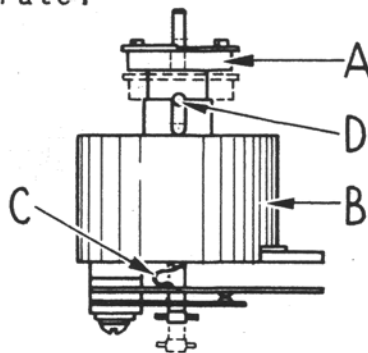
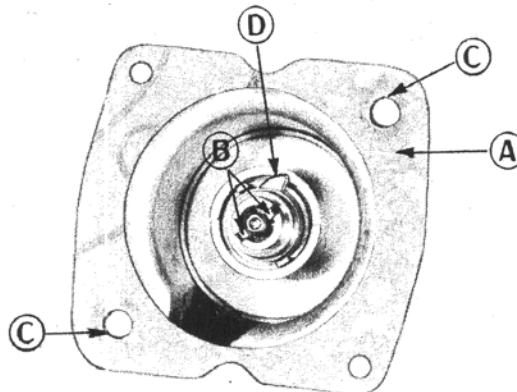

Figure 2 Coil, Shaft and Contacts Assembly
Figure 10 Top View of Housing with Small Drive Clutch in Place
2. Examine motor drive shaft, springs, and drive clutch for defects, and replace defective parts. Make sure that arm ("D", Figure 10) on drive clutch is not worn and swings freely on its pivot. Also examine ears of clutch member ("A", Figure 2) attached to coil assembly.
3. Test coil by connecting one terminal of regular 6-volt storage battery to case of coil ("B", Figure 2) and other battery terminal to coil terminal onto which wire is soldered ("C", Figure 2). Clutch member ("A", Figure 2) of coil should be drawn down to position shown by dotted lines Figure 2 when this is done. Hold coil assembly in position shown in Figure 2, with cross pin of clutch member in slot "D", when making this test. If clutch member does not move, replace entire coil, shaft and contacts assembly.
4. If above test reveals no trouble, see that contacts inside drive unit housing are clean, and that terminals of connecting leaf springs on end of coil are clean and are not bent out of position. These springs are normally parallel with coil face (See Figure 2).
6. Place gasket ("A", Figure 10) on housing.
7. Place bearing and drive clutch assembly over shaft with ears ("B", Figure 10) in line with holes in housing ("C", Figure 10) for motor mounting studs.